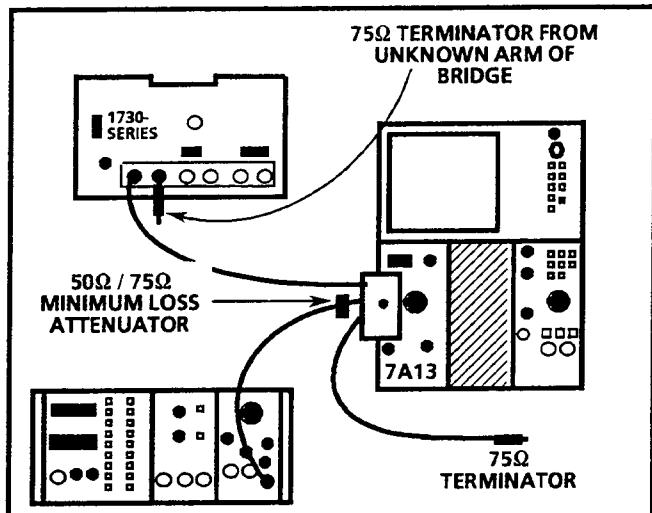

Fig. 5-12. Measuring return loss of 1730-Series CH-A input.
- Connect the Unknown arm to the CH-A INPUT of the 1730-Series instrument and the terminator to the opposite side of the loop-through. See Fig. 5-12.